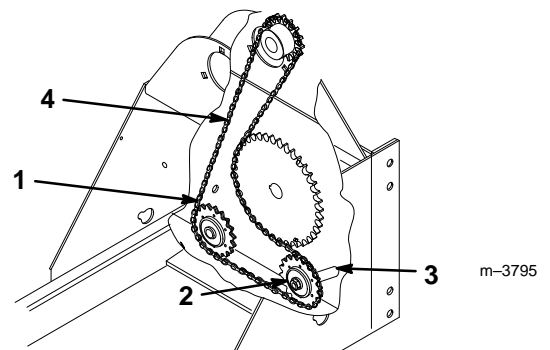

Figure 2
2. Position the chain around the sprockets as shown in Figure 2.
3. Slide the idler sprocket in the adjustment slot until the chain is snug, but not tight (1/8" to 1/2" deflection of the chain in the area indicated in Figure 2) and torque the bolt securing the sprocket to 67 to 83 ft lbs (90.8 to 112.5 Nm).
1. Loosen the bolt securing the idler sprocket (Fig. 2).